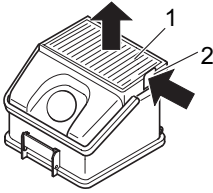

Fig. 26
2. Remove the filter (Fig. 26/1). To do this, press the lock (Fig. 26/2) in and lift the filter up and out.